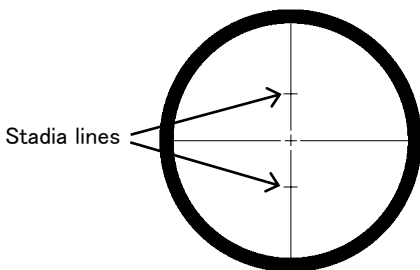

Fig.4.6
1) Counting the distance between the double stadia lines. For example, the length is 1cm ( Fig.4.6 ).